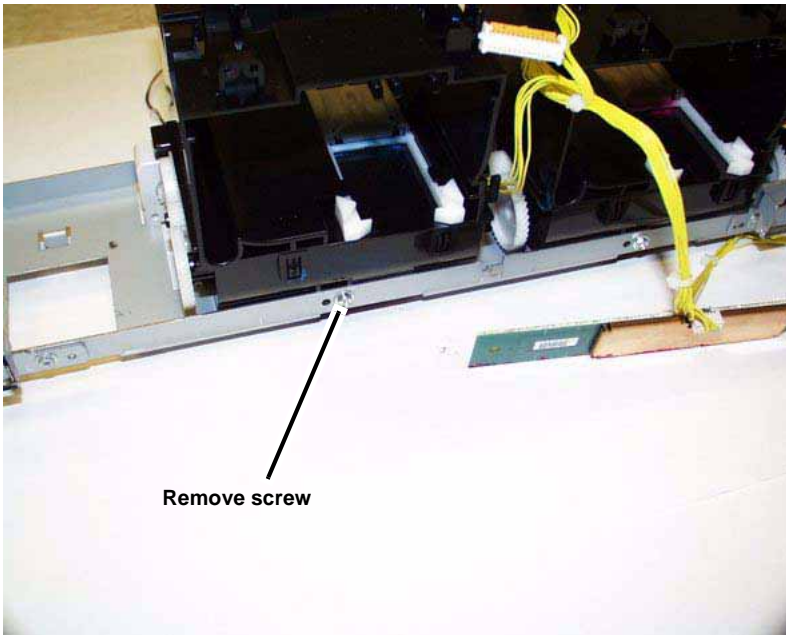

Figure 1 Removing front screw
3. Remove front screw (Figure 1).